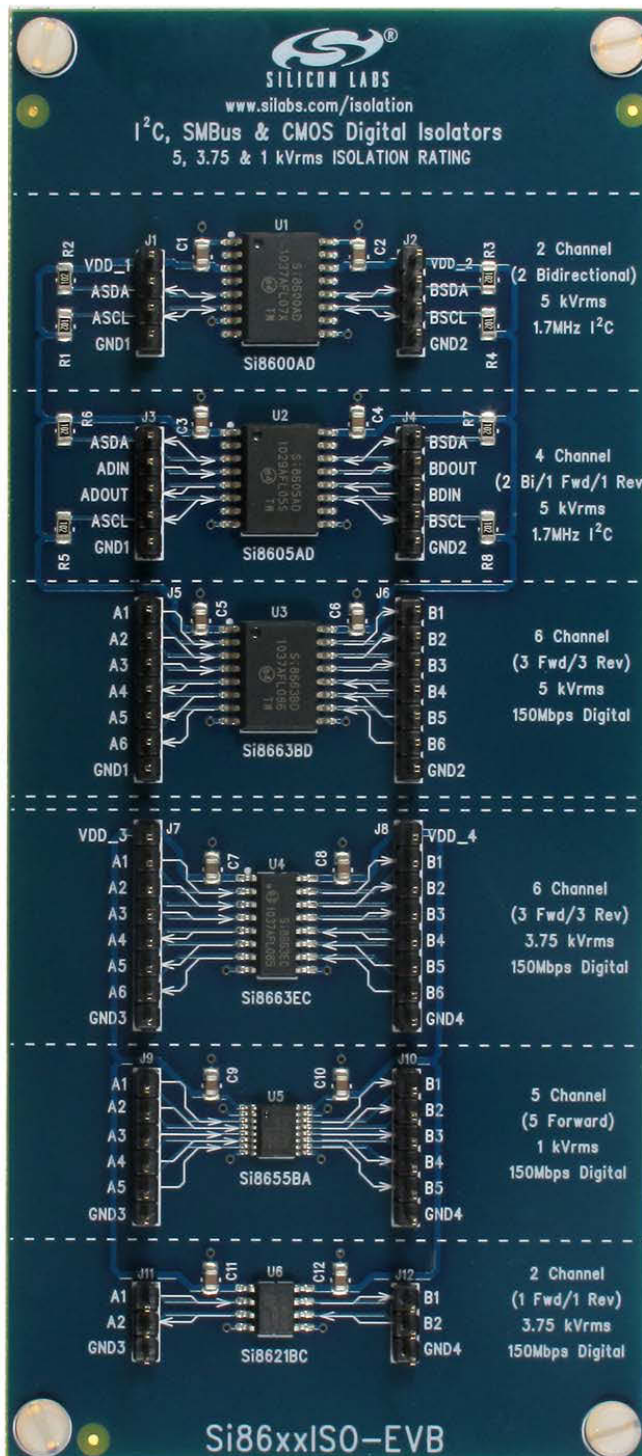

Figure 1. Si86xxISO Evaluation Board Overview
- Si86xxISO based evaluation board (Si86xxISO-EVB) shown in Figure 1.
The Si86xxISO evaluation board (see Figure 1) provides a means of evaluating the Si861x,2x,3x,4x,5x,6x digital isolator families as well as the Si8600 isolated I2C family. After power (2.5–5 V) has been supplied to the board, connect a digital input signal (5 Vpeak max, with desired clock frequency up to 150 Mbps) to the desired input channel. To view the isolated channel's data transmission, connect a scope probe to the output channel of interest. There are various inputs and outputs on either side of the board depending on the device one chooses to evaluate, as indicated by the silk screen. The board can be used to measure propagation delay, pulse-width distortion, channel-channel matching, pulse-width skew, and various other parameters.